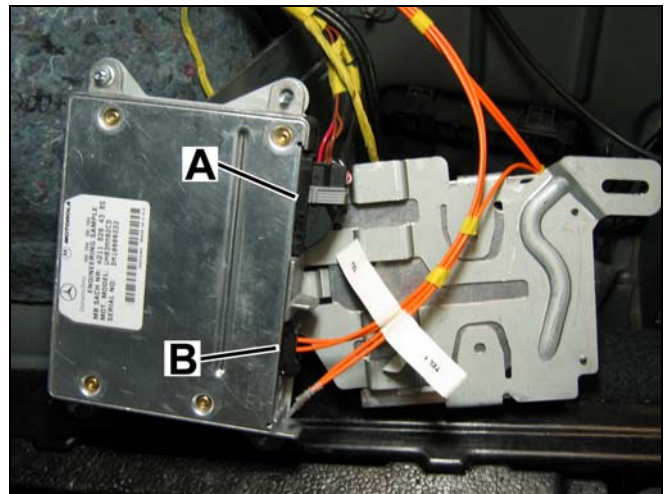

Figure 23
1. Place the bracket assembly—linear compensator/UHI control module—near its mounting point (Figure 23).
2. Connect the UHI power supply connector to the UHI control module (A, Figure 23).
3. Connect the UHI MOST connector to the UHI control module (B, Figure 23).